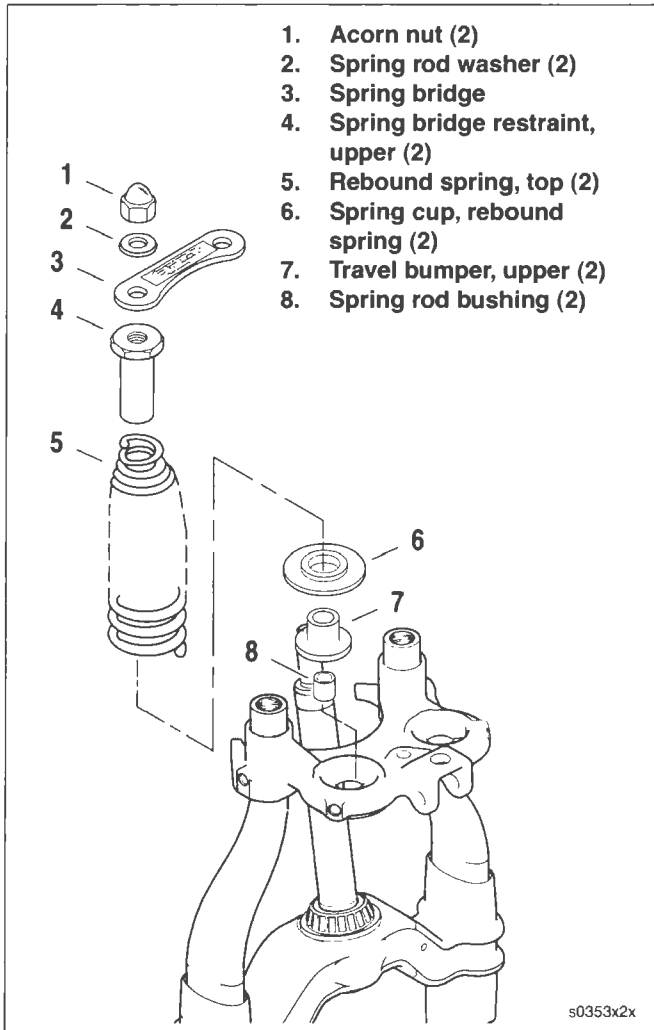
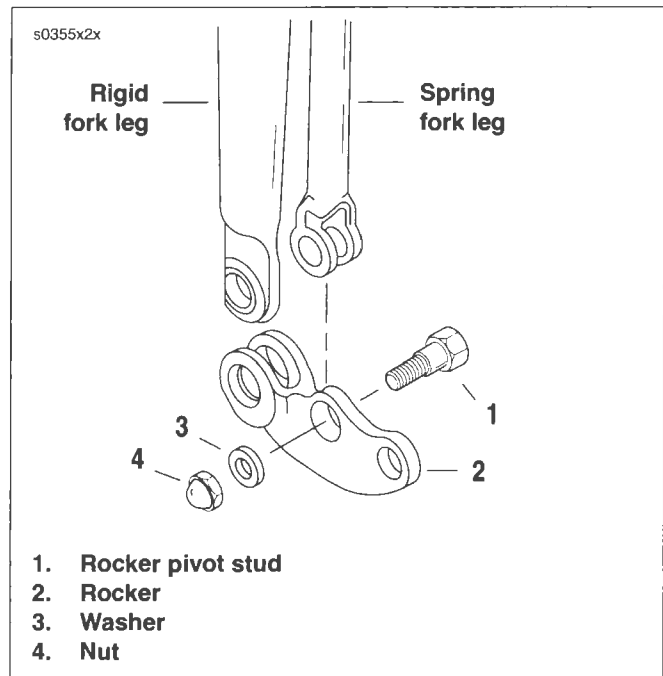
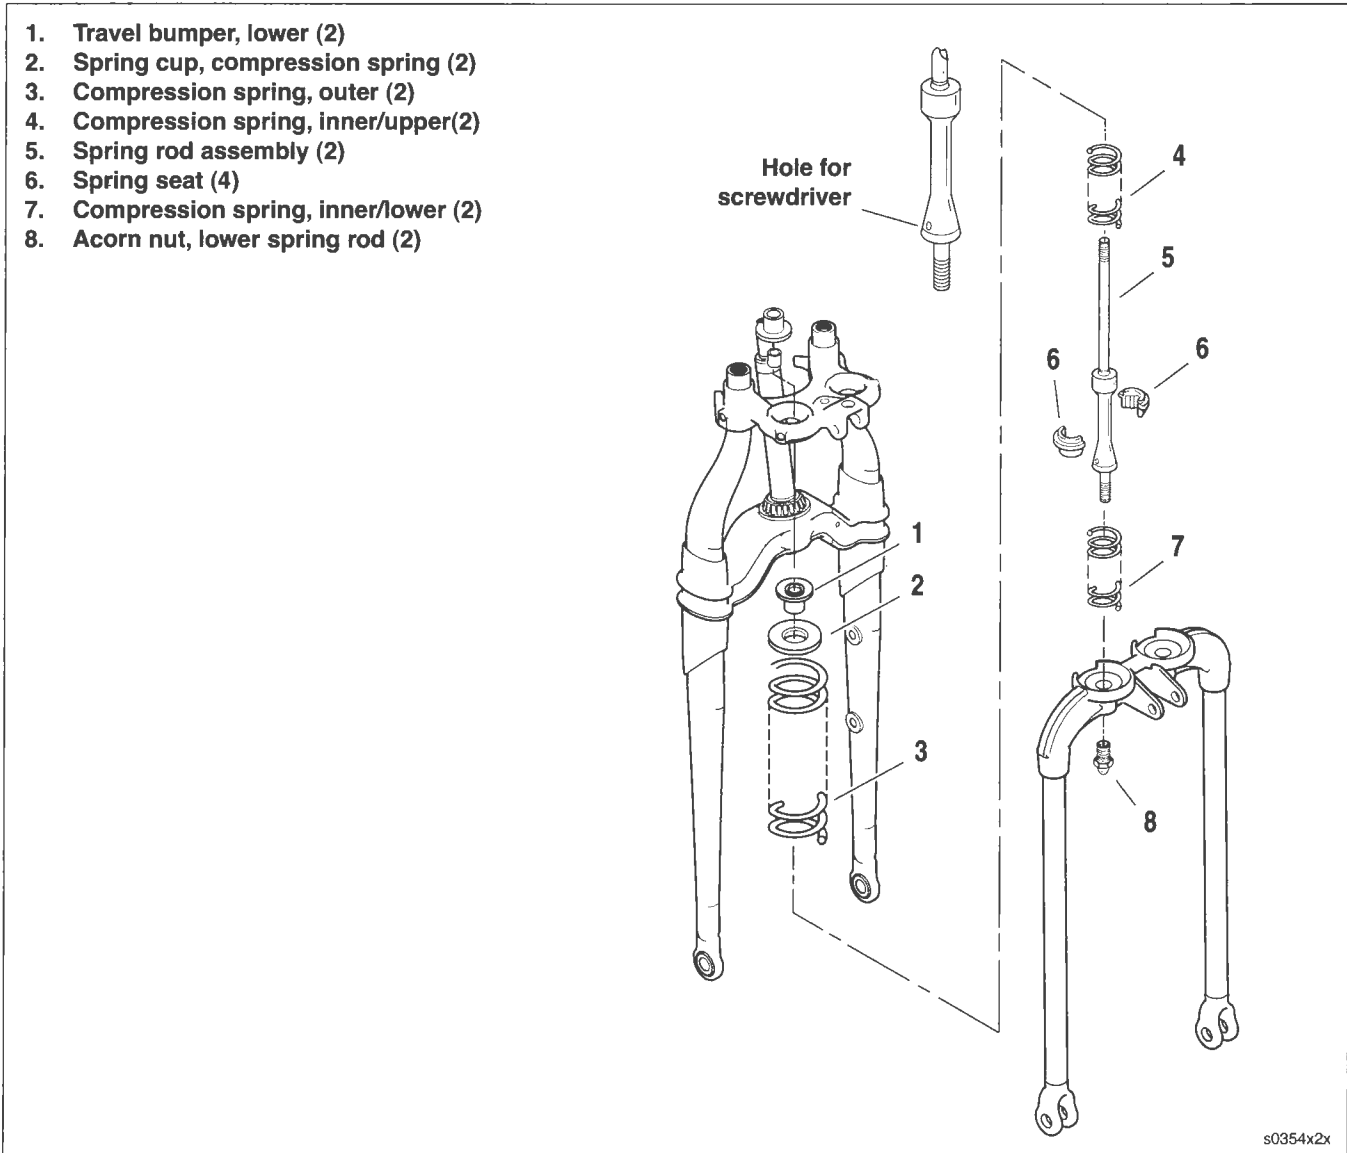

Figure 2-97. Rebound Spring: Disassembly
Figure 2-98. Rocker Assembly
Figure 2-99. Compression Spring
5. See Figure 2-97. Remove acorn nuts (1), washers (2) and spring bridge (3).
6. Remove upper spring restraints (4).
7. Remove upper (rebound) springs (5).
8. Remove rebound spring cups (6).
9. Remove upper rubber travel bumpers (7).
10. Remove bushings (8).
11. See Figure 2-98. Remove rocker head pivot studs (1), washers (3) and acorn nuts (4) from rockers (2).
14. See Figure 2-99. Remove compression spring cups (2) and lower rubber travel bumpers (1). Remove outer compression springs (3).
15. Remove inner/upper compression springs (4).
1. See Figure 2-99. Place both spring seats (6) on the spring rod (5).
2. Place inner/lower compression spring (7) over lower spring rod and spring seats.
4. Install long acorn nut (8).
5. Use a #2 Phillips head screwdriver in the cross-hole at the bottom of the spring rod (5). Tighten long acorn nut to 20-25 ft-lbs (27.1-33.9 Nm).
6. Place inner/upper compression spring (4) on spring seats.
7. Place outside compression spring (3) over the inside compression springs.
8. Install compression spring cup (2) and lower rubber travel bumpers (1).
12. See Figure 2-98. Place spring fork lower end in position in rocker (2).
13. Install thick head pivot stud (1) with thick washer (3) and acorn nut (4). Tighten nut to 45-50 ft-lbs (61.0-67.8 Nm).